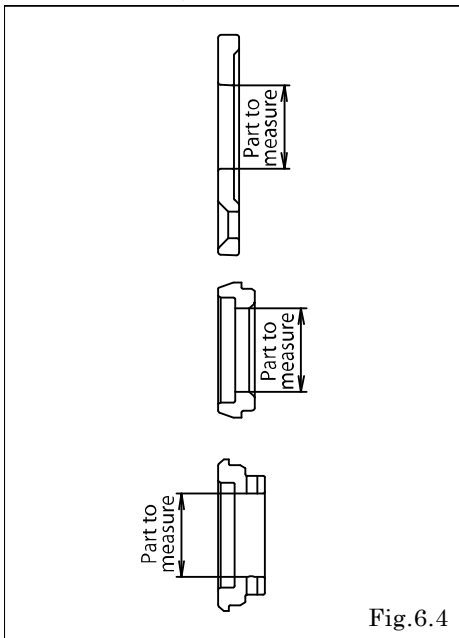

Fig.6.4
- Guide bush stopper, guide bush A, guide bush B [Fig.6.4]